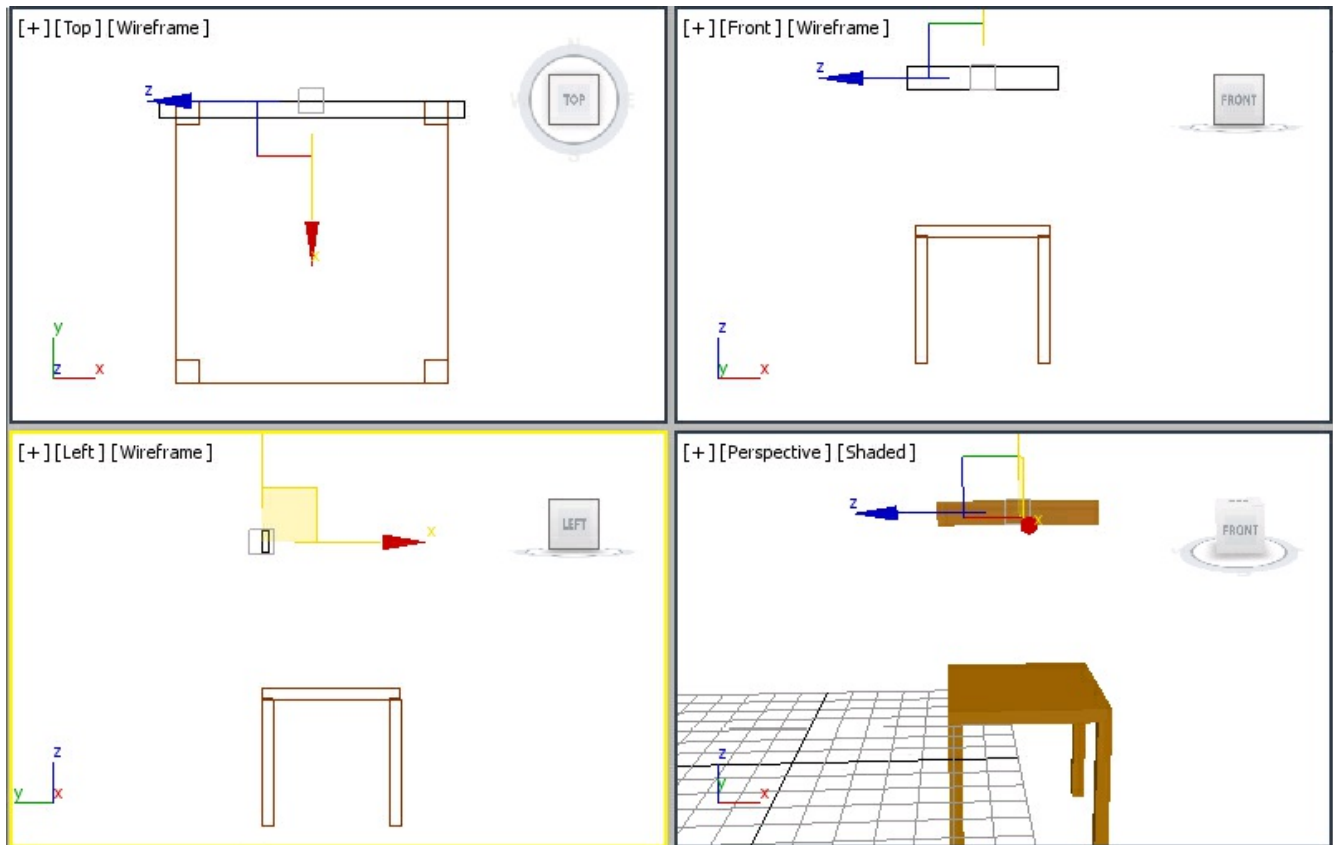

Figure 2-60 Alignment of *back1* with base
10. Rename the created object as *back1*. Next, align it with *base*, refer to Figure 2-60.